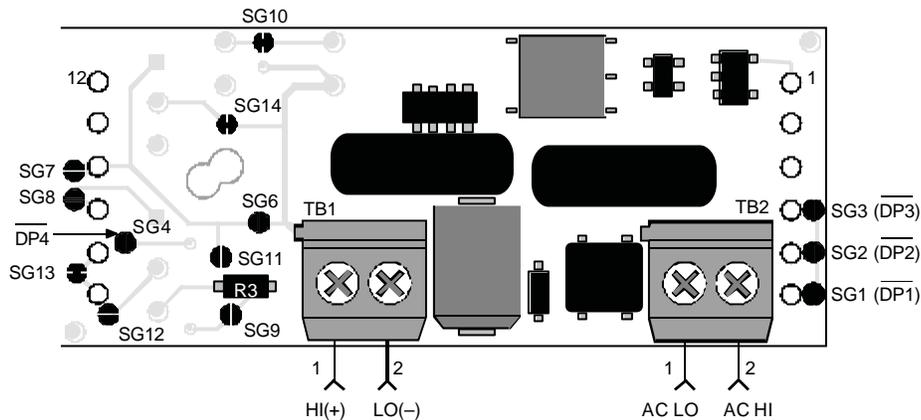

Figure 2. DMS-EB-AC/DC Board
**4. DMS-40LCD Meters:** To change the input range on DMS-40LCD meters from the default low-range (i.e., with pin 2 of the meter open) to the high range, short pin 2 to pin 1 (+5V) on the top right side of DMS-EB-AC/DC board (refer to Figure 2 and the DMS-40LCD data sheet for more information).
**6. Solder Gap Identification** (See Figure 2): Each solder gap's respective number is printed directly on the pc-board surface in copper etch. Be sure to double check all solder gap modifications before applying ac power and the input signal to the DMS-EB-AC/DC.